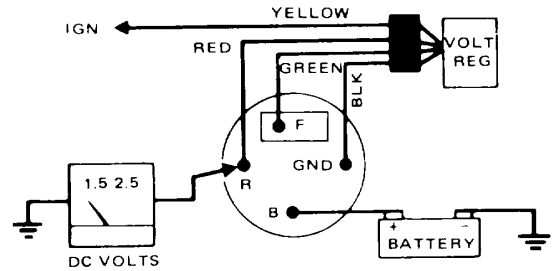

FIG. 3. Ignition On - Engine Not Running
**TEST 1 - IGNITION ON - ENGINE NOT RUNNING (Refer to Figure 3)**